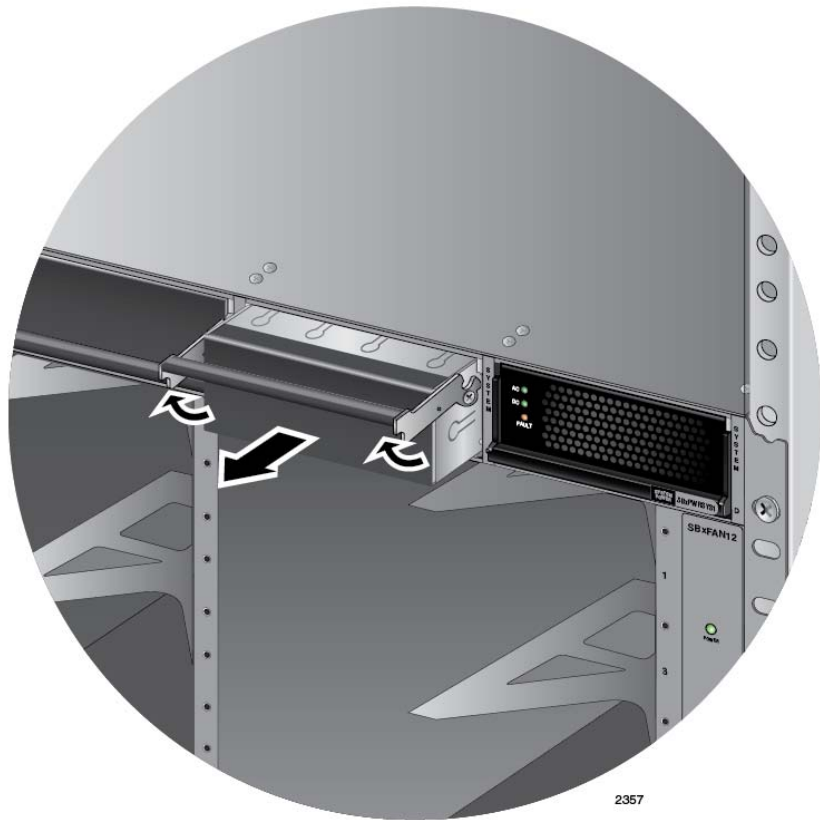

Figure 53. Removing the Blank Slot Cover from Power Supply Slot C
2. If the chassis already has a power supply in slot D, remove the blank power supply panel from slot C by lifting the blank panel handle and sliding it out of the slot, as shown in Figure 53 on page 118.